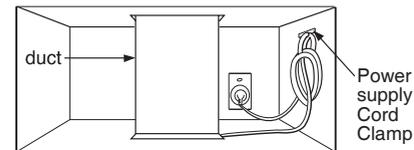

Figure 34
5. Use the power supply cord clamp to bundle the power supply cord. Install the power supply cord clamp, using a screw as shown in Figure 34, to the inside of the cabinet.